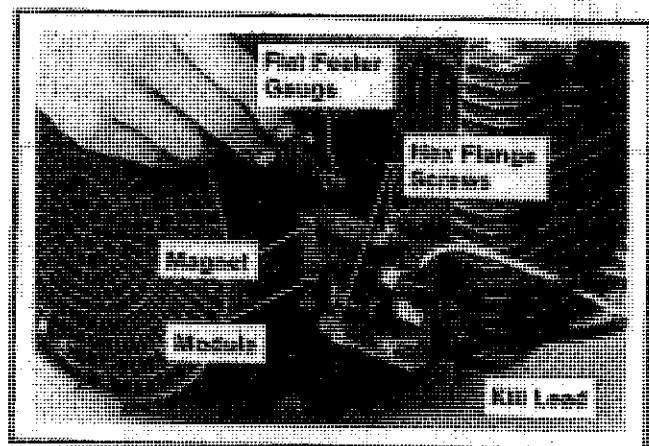

Figure 11-39. Installing Ignition Module.
3. Insert a .014" flat feeler gauge or shim stock between magnet and module. Loosen the hex flange screws so magnet pulls the module against feeler gauge (refer to Figure 11-39). Tighten the hex flange screws securely. Remove the feeler gauge or shim stock. Due to the pull of the magnet, the magnet-to-module air gap should be within the final range of .008"-.012".